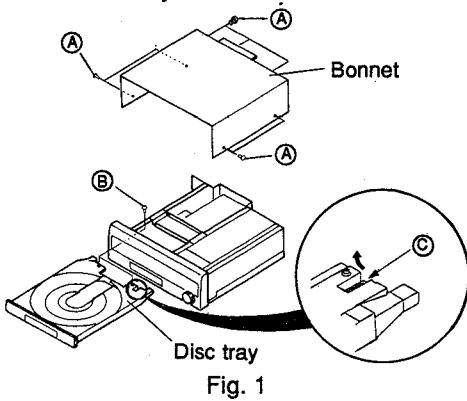

Fig. 1
1. Remove the 7 screws **A** that stabilize the bonnet and take off the bonnet. (Fig. 1)
2. Remove the 2 tray stopper screws **B** and press the OPEN/CLOSE button to put the tray unit in the open position. (Fig. 1)
3. While pushing the hook on the right rear of the disc tray **C** to the left, pull out the tray unit. (Fig. 1)